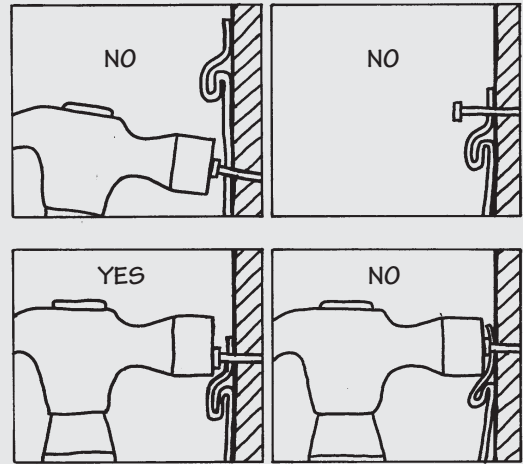

Figure 16.
- Do not drive the head of the fastener tightly against the siding nail hem. Allow approximately 1/32" (0.8mm) clearance (the thickness of a dime) between the fastener head and the vinyl. **Tight nailing, screwing, or stapling will cause the vinyl siding to buckle with changes in temperature (Fig. 16).**